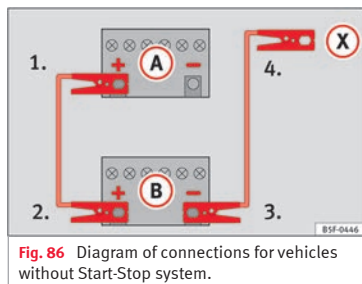

Fig. 86 Diagram of connections for vehicles without Start-Stop system.
2. Connect one end of the **red** jump lead to the positive (+) terminal of the vehicle with the flat battery **(A)** » **Fig. 86**.
4. *For vehicles without Start-Stop system:* connect one end of the **black** jump lead to the negative terminal (-) of the vehicle providing the current **(B)** » **Fig. 86**.